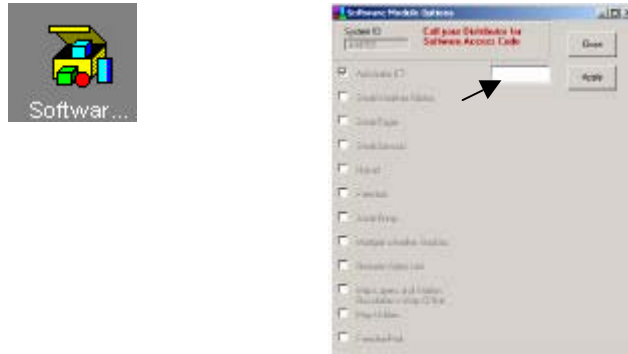

FIGURE 4 Key code Dialog Box
3. Enter your key code by clicking on the **Software Modules Options** button and entering the key code(s) in the corresponding box (see Figure 4)